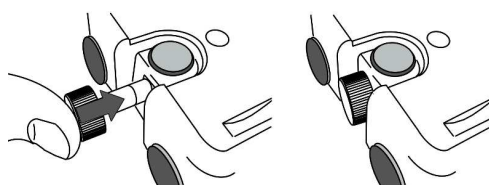

Fig.2
2. Set BSP into the cart body with your finger until the concavity part of BSP, grooved part right next to the knob, fits into the housing of the body. If you have difficulty doing so, set BSP while slightly lifting it up (see Fig.2).